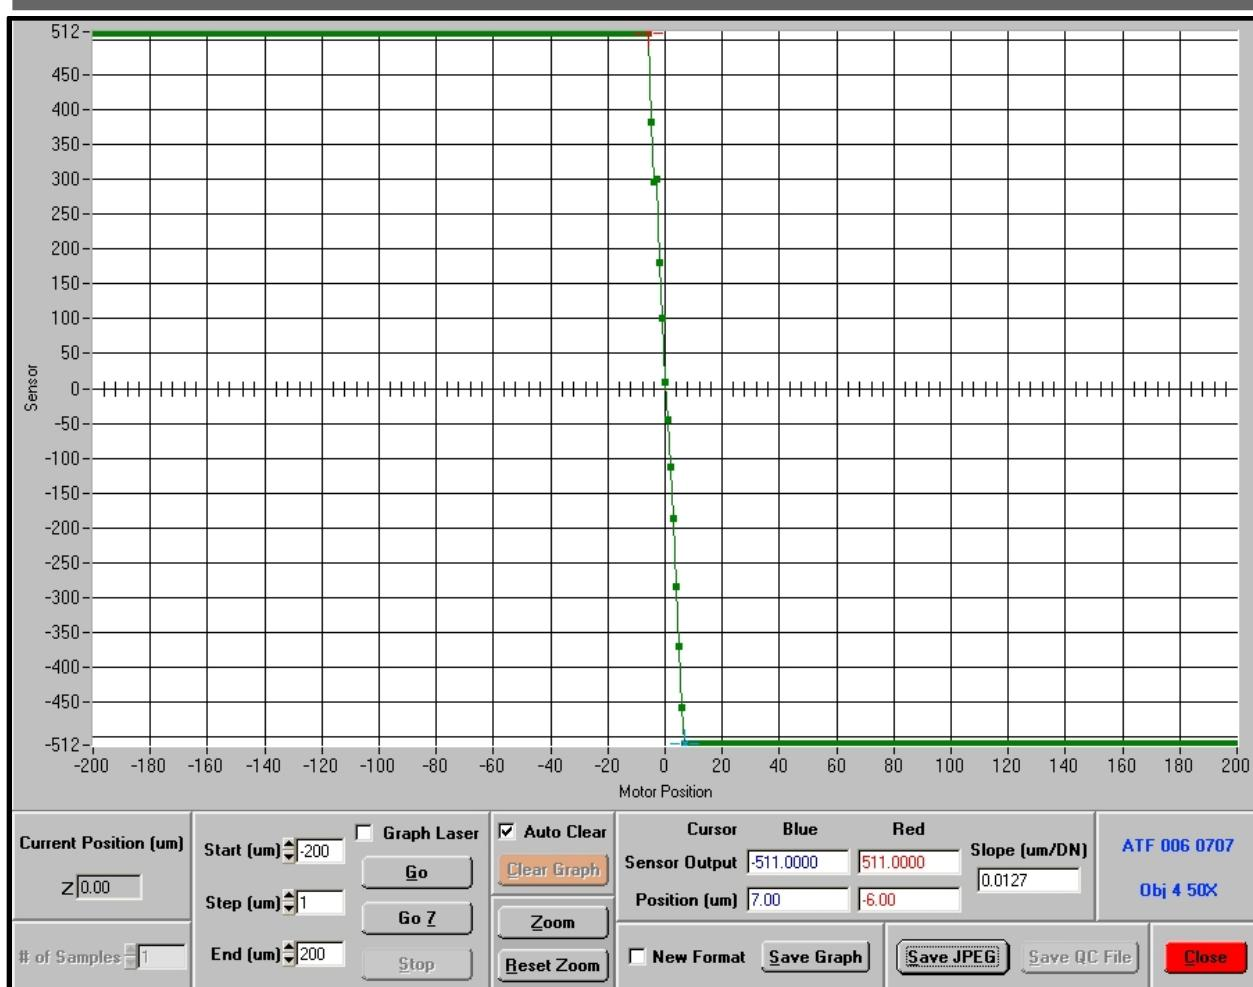

Figure 4-11 Capture range for properly aligned sensor (objective x50 – LCD specimen)
- With high objective in focus execute 'Move&Graph' over the range of 200um, with the step of 2um. You should obtain the characteristics similar to the one depicted on figure [Figure 4-11].
- For properly aligned sensor the capture range plot should look like it is shown in the Figure 4-11. (Objective lens x100 and LCD TFT array were used in this case. The laser dot was targeted onto the LCD cell area, covered by indium-tin oxide (ITO) film).